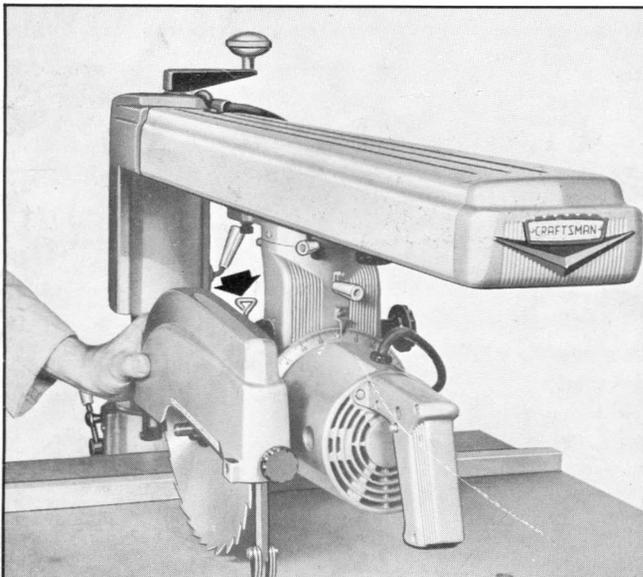

Fig. 15
1. Attach blade guard with screw No. 23, fig. 3, to motor. See fig. 15.